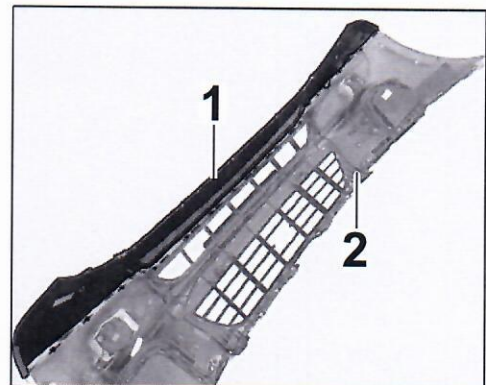

Figure 3
- 1.3 Remove front spoiler from front apron (⇒ *Figure 3*)